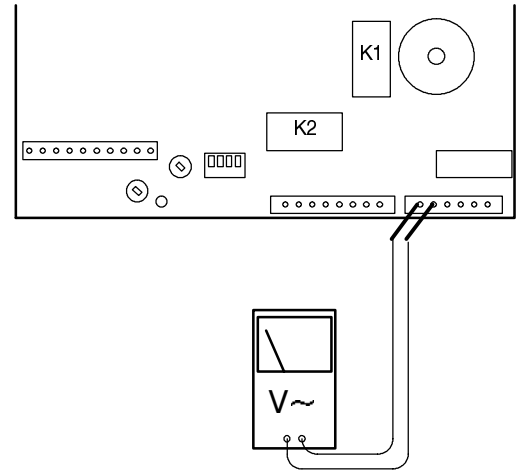

fig. 57
- 2 Connect a meter, set for alternating voltage (230V) measurement, to the points indicated in fig. 57.